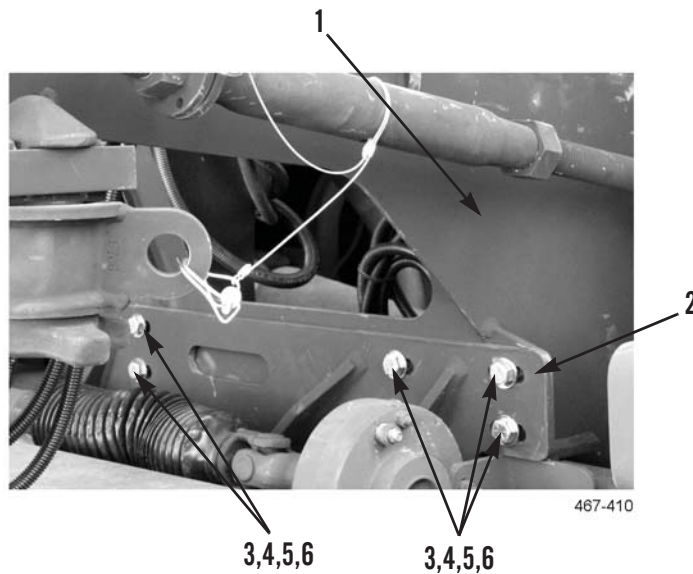

Figure 25. PLS Stowage Assembly Installation.
9. Use lifting device to place stowage assembly (Figure 25, Item 1) on frame between support brackets (Figure 25, Items 2). Align holes in stowage assembly with holes in support brackets.
10. Install six washers (Figure 25, Item 4), bolts (Figure 25, Item 3), washers (Figure 25, Item 5), and locknuts (Figure 25, Item 6) on support bracket (Figure 25, Item 2).